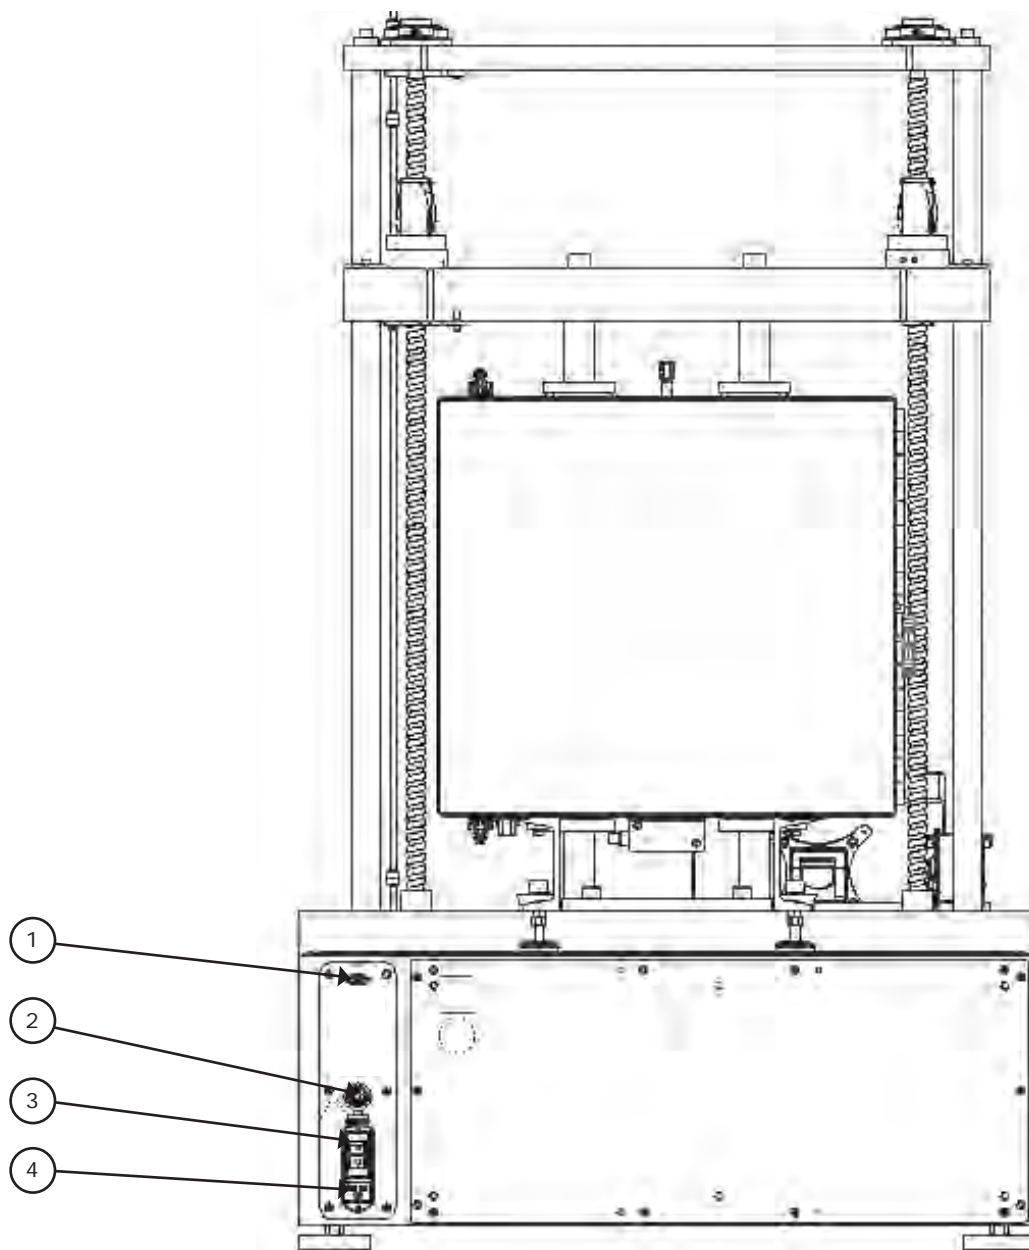

Figure C.2: Series 540 Sealant Tester (Rear View)
4. Connect the line cord to the line cord connector provided on the rear of the Series 540 Sealant Tester (see Figure C.2 for location). Make sure all controls are set to the OFF position. Check the main power switch/circuit breaker beside the connector to make sure it is in the OFF position.